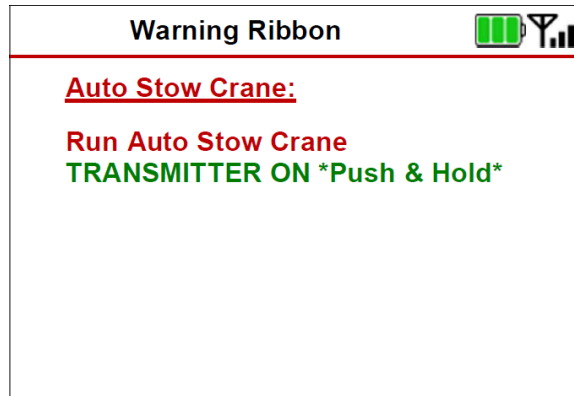

Figure 2-62
2.11.19.5 Auto Stow Crane Screen (Figure 2-62)